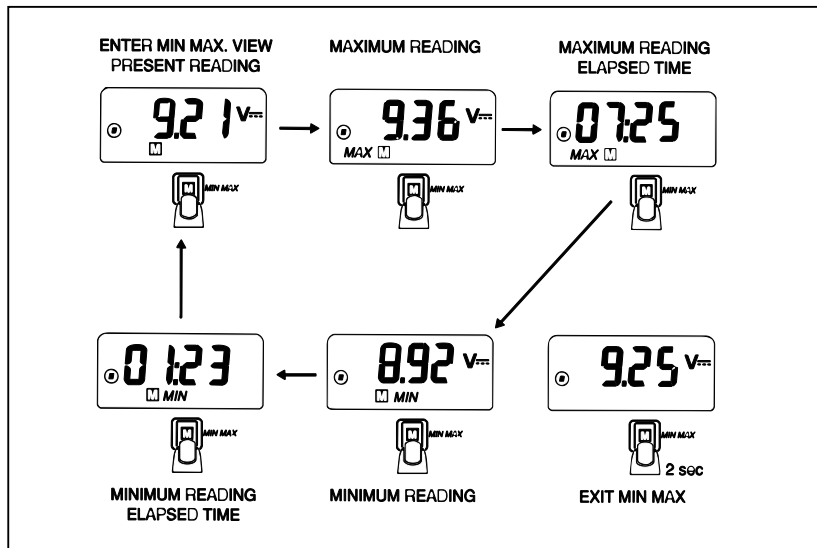

Figure 8. Maximum and Minimum Reading with Elapsed Time
5. Press [M] to step through the display sequence shown in Figure 8.